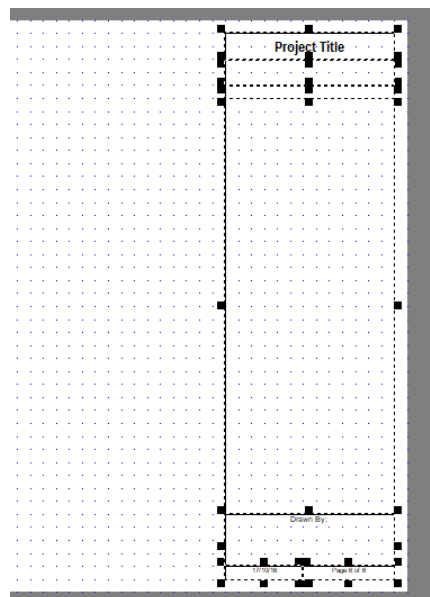

Figure 24-16: Selecting Multiple Sub-Views (Rectangles in this Case) With a Mouse Click and Drag
4. Click and drag from the top right corner to select all the sub-views (rectangles in this case) of the title block as shown in Figure 24-16.